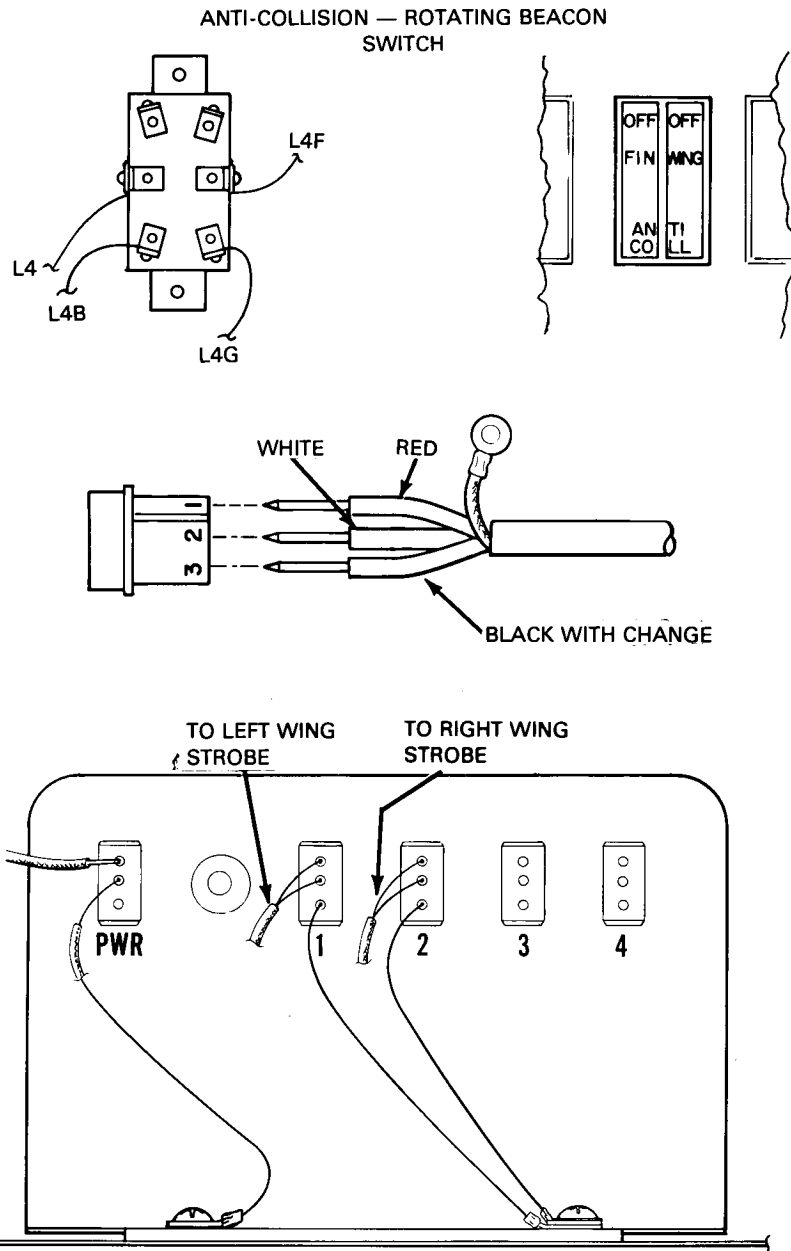

Figure 33-1. Strobe Light Connections
2. Insert the wire terminals in the plastic plug supplied with the new lamp. Wire according to the schematic diagram located in Chapter 91 and also see Figure 33-1.
INSTALLATION OF STROBE POWER SUPPLY. (Refer to Figure 33-1.)
2. Check for malfunction in interconnecting cables. (Refer to Figure 33-1.)